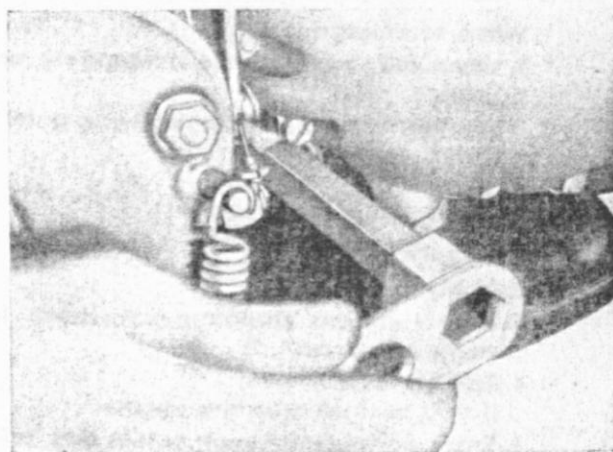

Fig. 18: Loosening the exhaust muffler
1. Loosen nut (Fig. 18) at bottom of engine case.